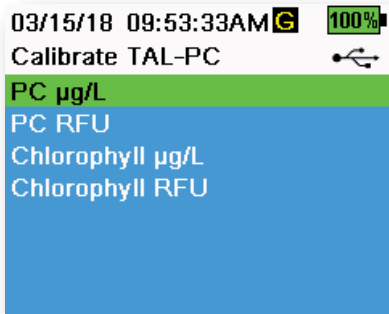
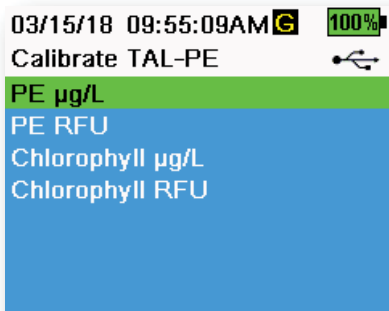

Figure 55 TAL-PC Calibration Options
Figure 56 TAL-PE Calibration Options
3. Select the channel and units to be calibrated. Options for the TAL-PC sensor are shown in Figure 55, while options for the TAL-PE sensor are shown in Figure 56.